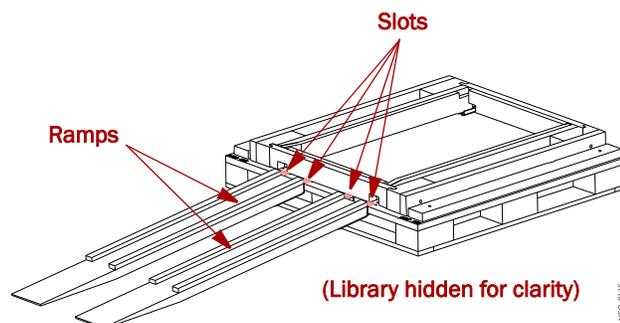

Figure 2-4: Placing the Ramps in Position
1. Remove the ramps from the RAMP box and lay them down, placing the brackets into the corresponding slots in the pallet (Figure 2-4).